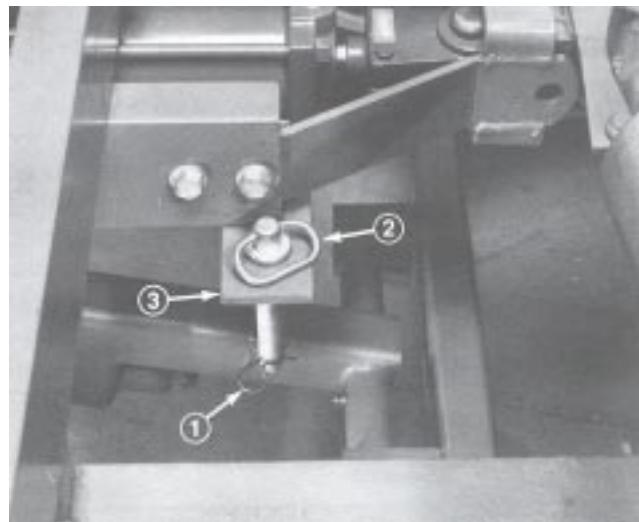

Figure 21
4. Remove hairpin cotter securing lockup pin to center cylinder rest (Fig. 21).
6. When mowing is to be resumed, remove transport strap from lift arms. Store on center frame channel and secure with hairpin cotters (Fig. 19). Remove lockup pin secured to lockup bracket and secure to cylinder rest with hairpin cotter (Fig. 21).